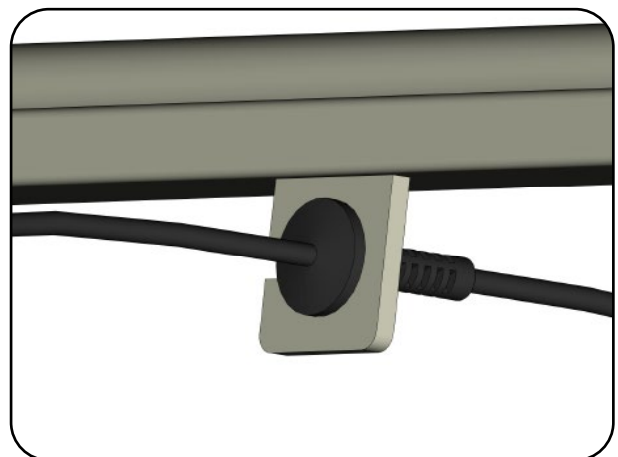

**Fig. 6.3.02 – Controller with assembled holder**
2. Fit the holder to the controller (Fig. 6.3.02).